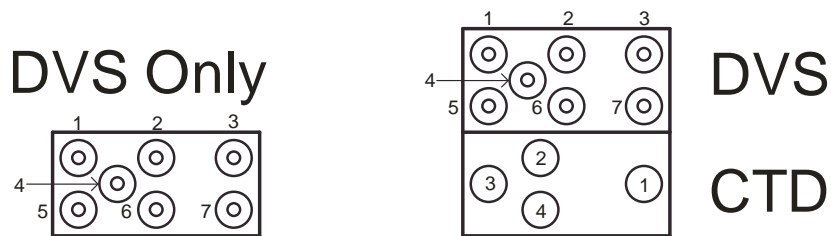

Figure 5. DVS End-Cap I/O Connector Configurations
- The DVS is available with a Sea-Bird SBE 37-SMP CTD instrument. Figure 5 depicts the end cap connector for this option.